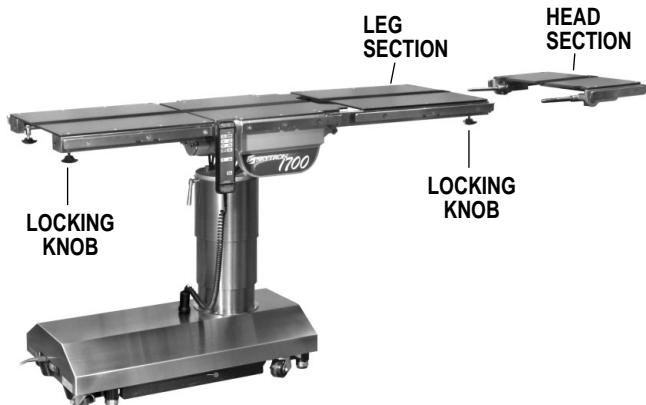

Figure 2-11. Repositioning Head Section
b. By loosening two locking knobs beneath the back section, an additional 5" of longitudinal adjustment can be achieved. If desired, the head section may be removed by loosening the locking knobs and pulling it straight out of the back section. 1700 Tables have the capability of attaching the head section to the leg section for use as a foot extension ONLY. Do Not reverse the patient on the table without first consulting with SKYTRON. Two locking knobs are located on the inside of the leg section for securing the head section. See figure 2-11.